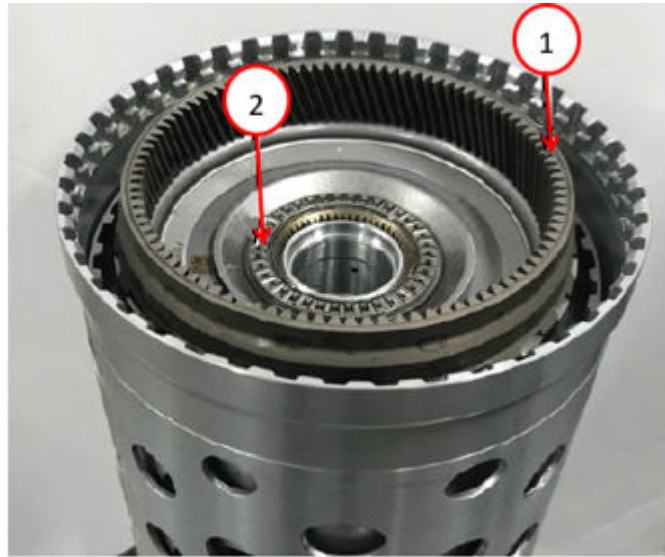

Fig. 28
44. Install the P2 annulus\P3 sun gear in the drum assembly Fig. 28.